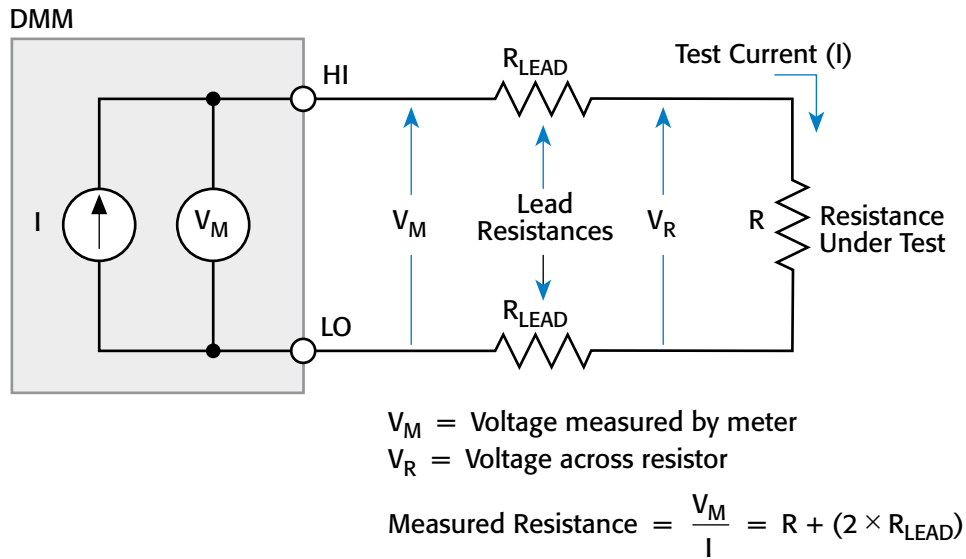

Figure 1.
In the two-wire method illustrated in *Figure 1*, the test current is forced through the test leads and the resistance (R) being measured. The meter then measures